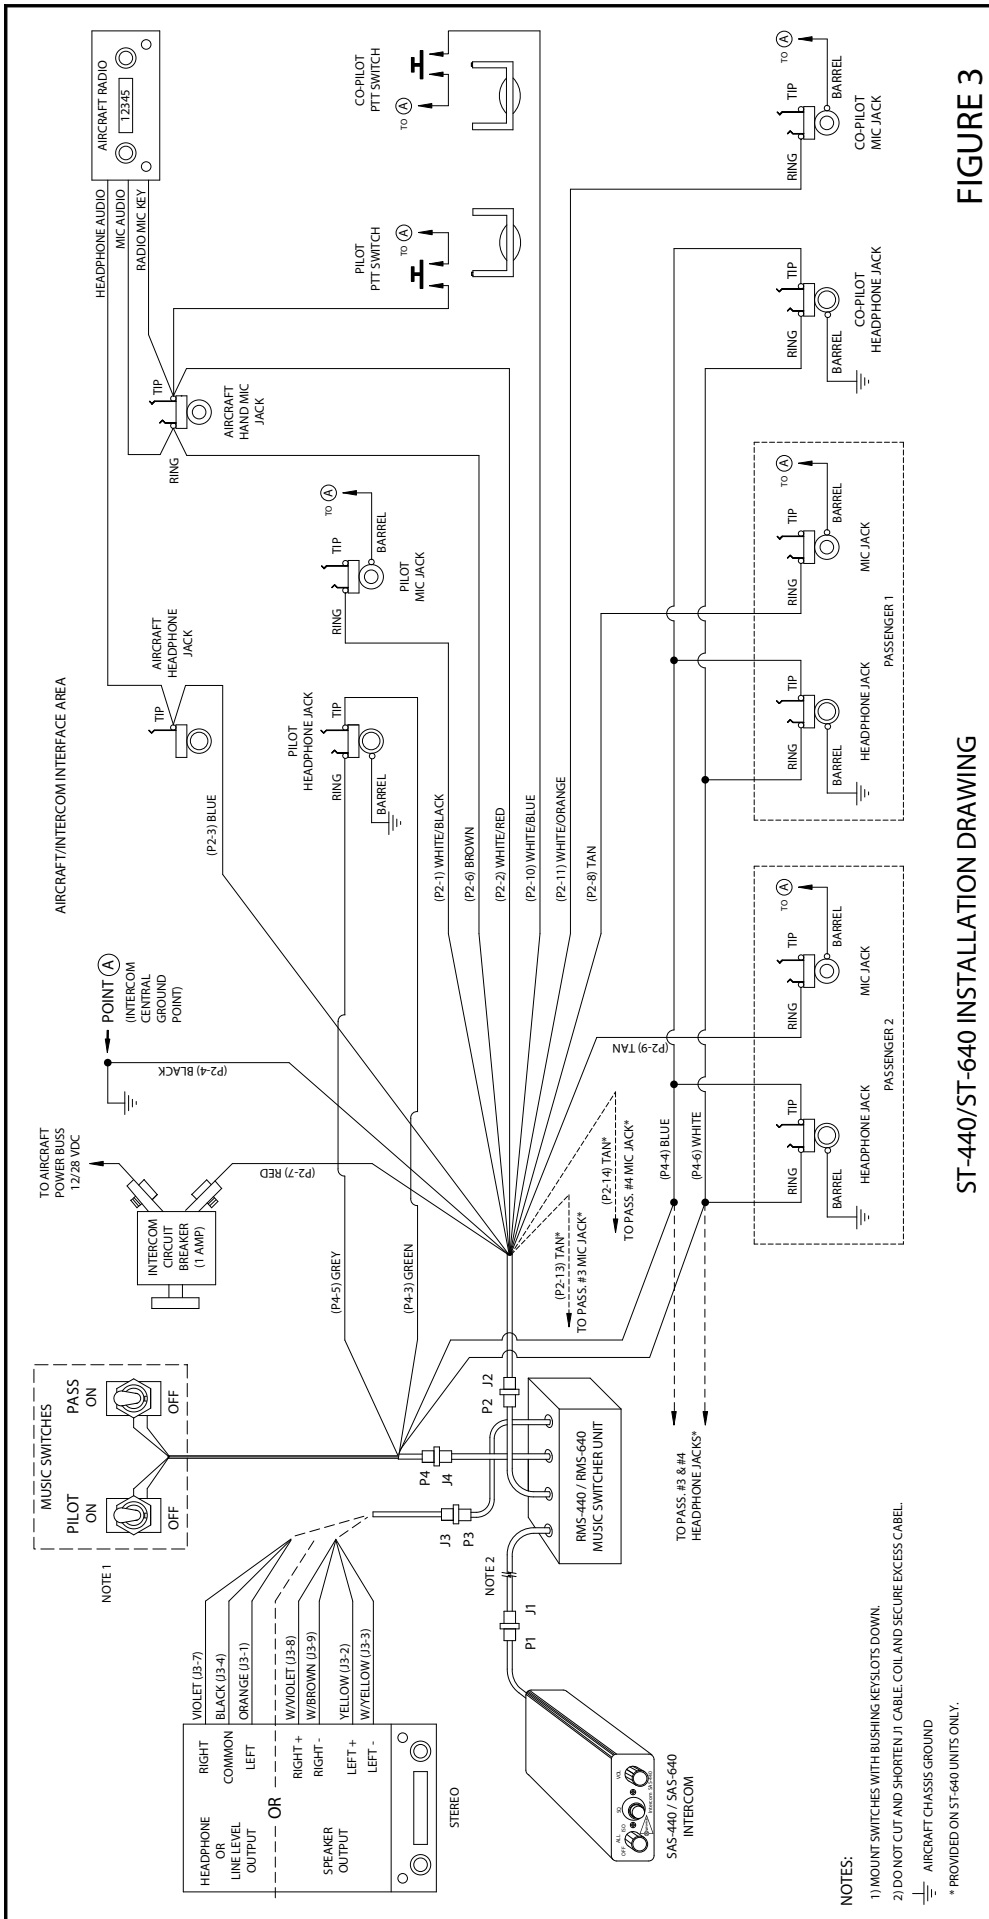

FIGURE 3
3. Drill 1/2" diameter holes for mic jacks and install with insulating washers supplied. (See Figure 2) Note: If the aircraft already has headset jacks (not including the hand mic jack), they can be used for this system, however, any existing wires must be removed and the jacks must be wired as shown in Figure 3. Additionally, if any existing mic jack is mounted in metal, insulating washers must be installed and the barrel connection wired back to Point "A".
1. Connections should be made as shown in Figure 3 and Table 1 on page 3.
4. Connect all intercom mic jack grounds to a single aircraft chassis ground point - Point "A" - as shown in Figure 3. (Use the black washers supplied to insulate the intercom mic jacks from aircraft chassis ground). NOTE: this intercom central grounding point is used to eliminate any unwanted electrical noises, such as alternator whine or strobe noise, from being induced into the intercom system through the grounds. All intercom mic jack barrels must be insulated from ground where they are mounted and connected back to Point "A" on their own individual ground wire. Similarly, both intercom ground wires (J2 pin 4) and the push-to-talk switch grounds must also be connected back to Point "A". It is not necessary, however, to connect the headphone jack barrels to Point "A". They can either be grounded where they are mounted or some place nearby.
3. Unplug the SAS unit from its wiring harness and insert connectors J1 and P2 on the RMS unit as shown in Figure 3. Connect remaining plugs per Figure 3.
4. Remove the intercom headphone jacks from the pilot, co-pilot, and passenger positions in aircraft. Wires, which had been connected to the phone jacks should be cut, insulated and tied back. If two or more wires appear on a single jack terminal, they should be cut free of the jack, then spliced together before insulating and tying back. Do not disturb the microphone jacks. Replace headphone jacks with three terminal type "stereo" jacks supplied with the RMS switcher. Connect wires to the stereo jacks per Figure 3. Terminals on the stereo phone jacks may be identified per the mic jack shown in Figure 2. The jack bushings (barrel terminal) must be grounded to the airframe or wired to aircraft ground. For monaural operation See Note 9 in the "WIRING INSTRUCTIONS" section above.
5. Connect up stereo music source per Figure 3 and Notes 8 and 10 under the "WIRING INSTRUCTIONS" section above.
Rewire all the stereo headphone jacks per Figure 3.